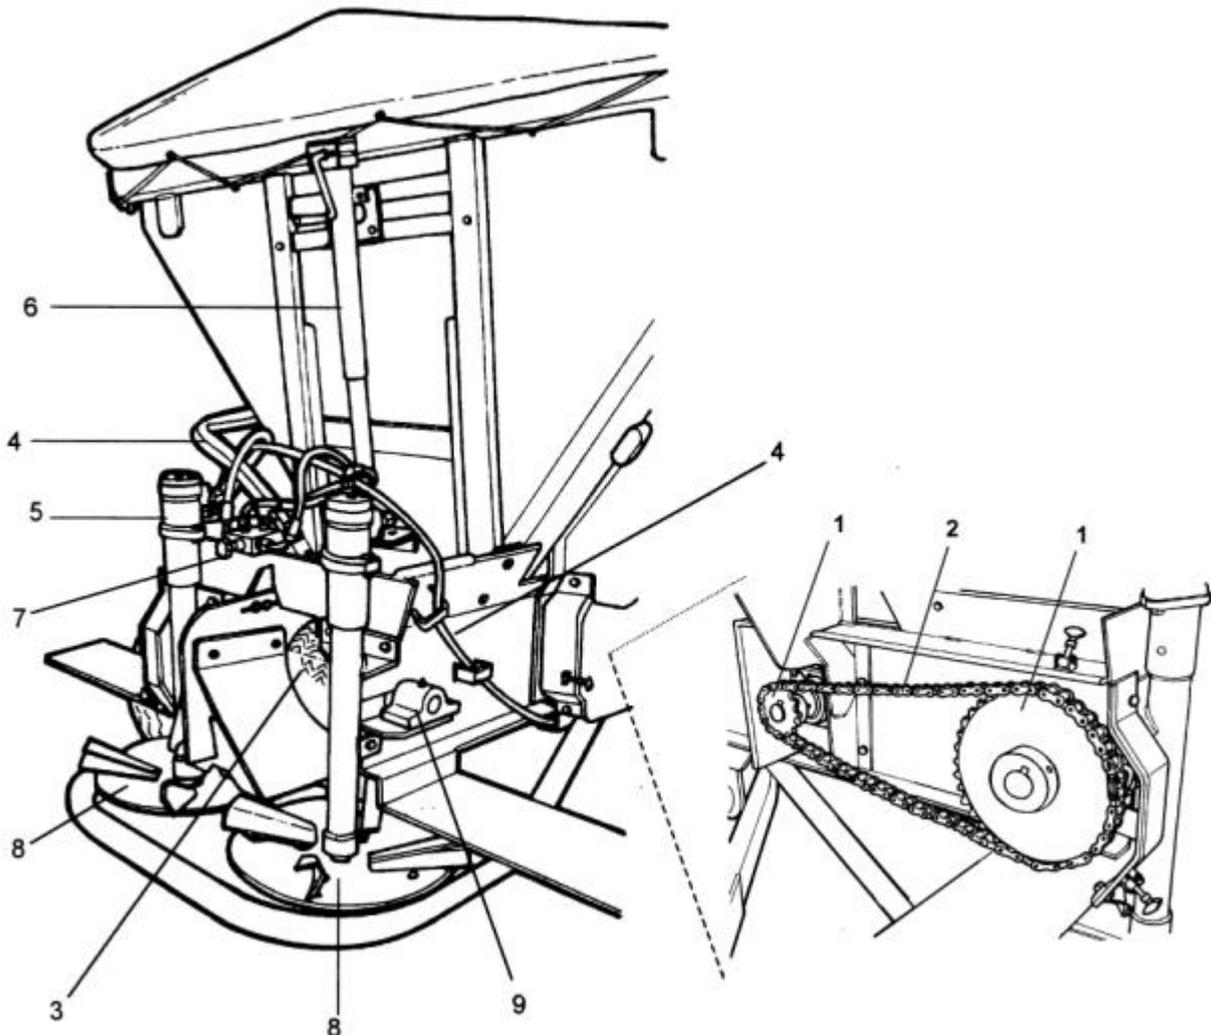

Figure 3 – 6000 Model
10. Check the condition and operation of the drive gears (1) the chain (2) and feed belt (3) (Fig 3).
11. Check hydraulic hoses (4) and hydraulic motors (5) for damage and hydraulic fluid leaks (Fig 3).
12. Check the operation of the fertiliser flow control (6) (Fig 3).
13. Check the operation of the hydraulic system control block (7) and check for leaks (Fig 3).
14. Check the condition and operation of the spinners (8) (Fig 3).
15. Check the conditions of the bearing blocks (9) (Fig 3).